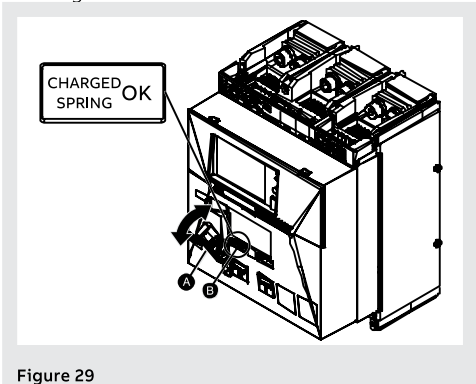

Figure 29
2. Charge the springs. - Repeatedly pull lever [A] downward until the spring indicator [B] indicates "CHARGED SPRING - yellow colour", as illustrated in Figure 29.